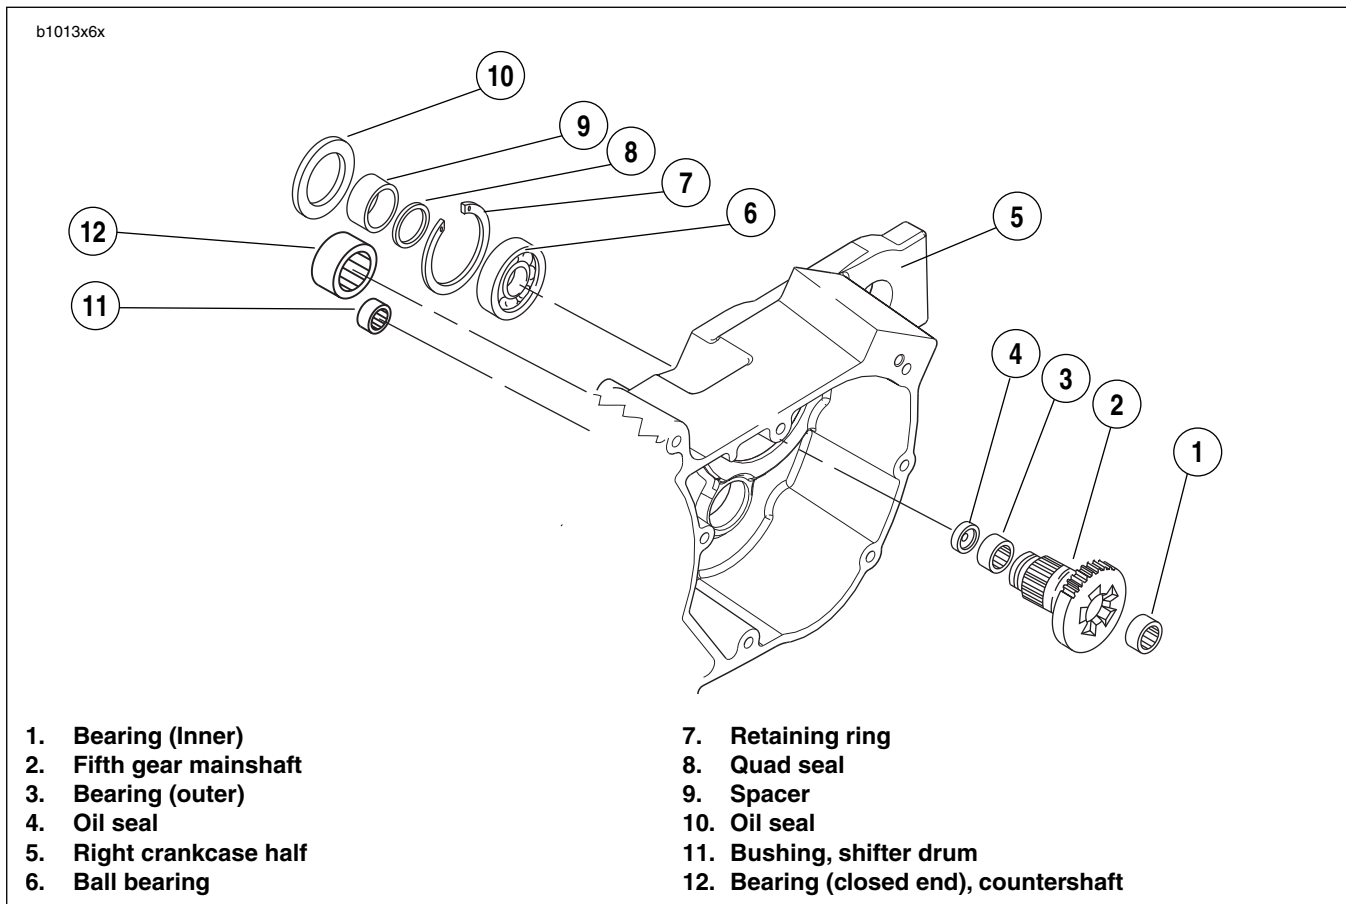

Figure 6-73. Transmission Assembly Right Crankcase Half
4. See Figure 6-73. Place **new** quad ring over threaded end of fifth gear, and position next to the gear taper. Install spacer over threaded end of fifth gear with chamfered end toward quad ring. Slide spacer up against bearing.
See Figure 6-73. Refer to Transmission assembly right crankcase half, for location of items discussed on this page.
2. See Figure 6-73. Remove main drive 5th gear. Use MAIN DRIVE GEAR REMOVER AND INSTALLER (Part No. HD-35316A). See 6.11 MAIN DRIVE GEAR.
2. See Figure 6-73. From the outside of the case place the needle bearing open end first next to the bearing bore. Hold the driver squarely against the closed end of the bearing and tap the bearing into place. The bearing is properly positioned when it is driven inward flush or 0.030 in. (0.762 mm) below the outside surface of the case.
1. See Figure 6-73. The shifter drum bushing (11) is a press fit in the right crankcase half. Inspect the bushing against the corresponding end of the shifter drum for proper fit and wear.